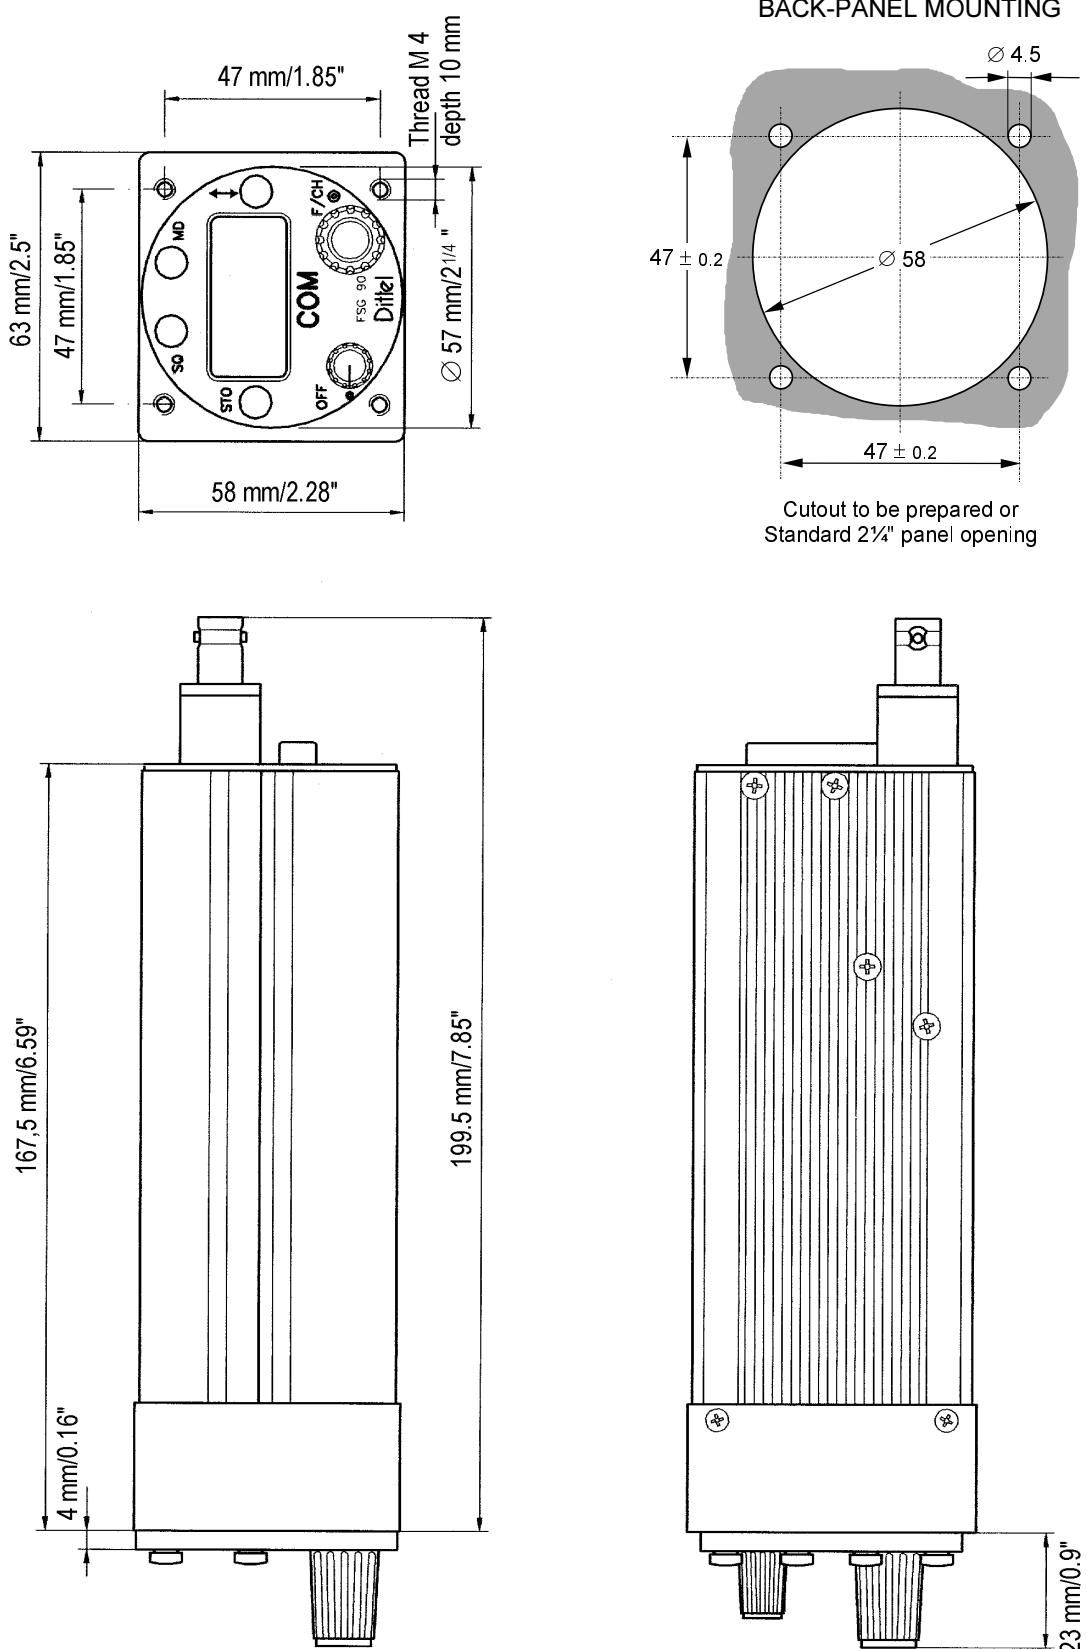

FIG. 3-3: **FSG 90(X)**
FSG 90(X) VHF/AM transceivers are designed to be installed into the instrument panel or operating console from its rear side into a standard 2 1/4 in. / 58 mm diameter panel opening. Dimensions and positioning of the 4 fixing holes refer to Figure 3-3.